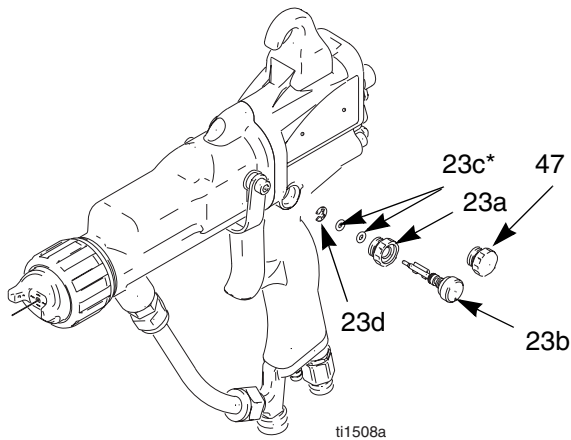

Fig. 22. Atomizing Air Restrictor Valve
2. Remove the atomizing air restrictor valve (23) . Inspect the o-ring (23c\*). Replace if necessary. See FIG. 22..
3. Install a new atomizing air restrictor valve (23), or disassemble and replace parts individually. The valve protrusion must be oriented to clear the air valve (21) shaft.